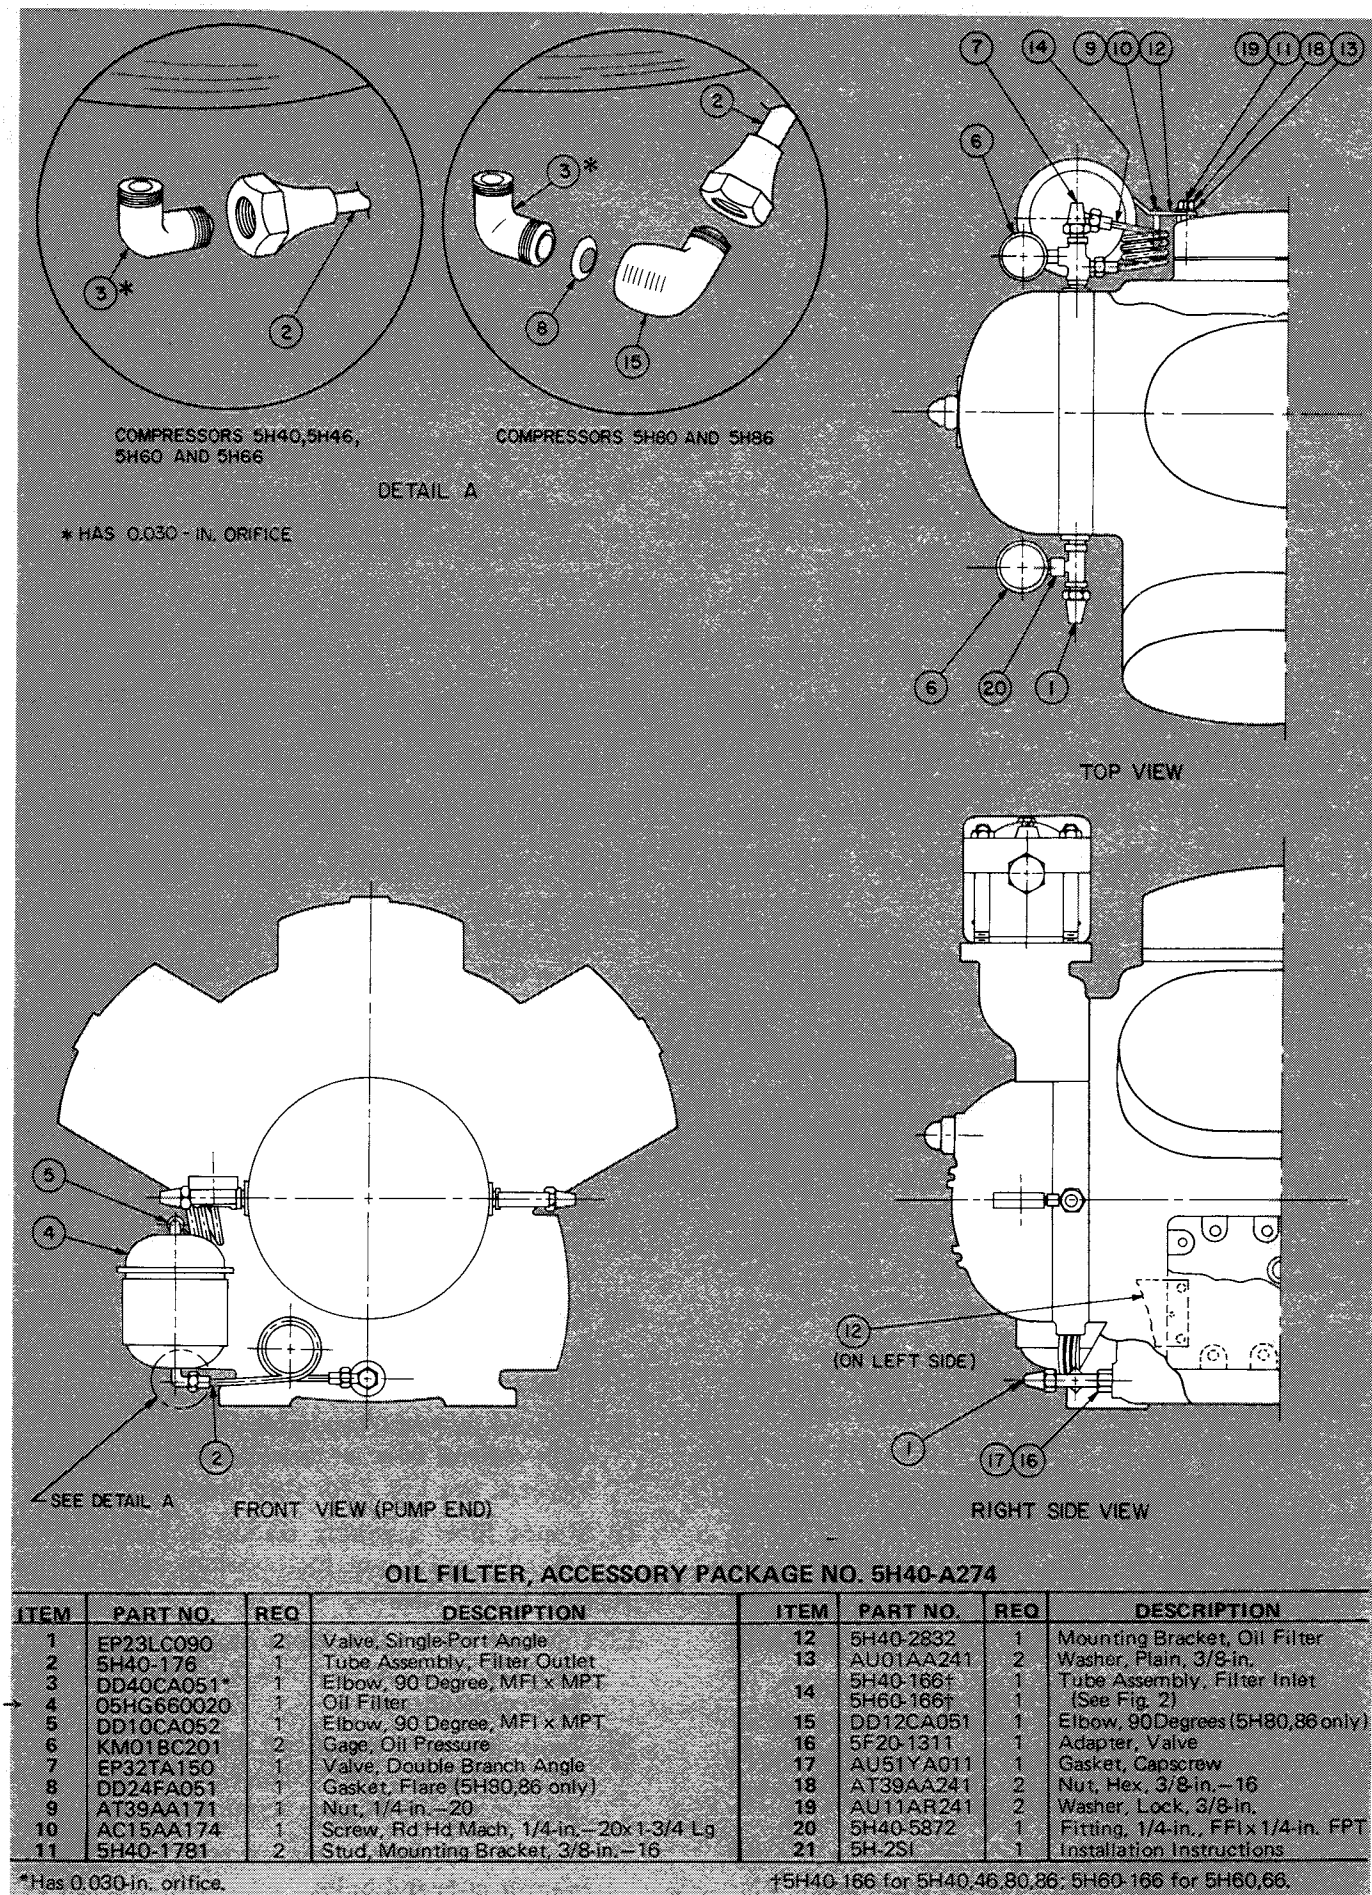

Fig. 1 – Installation Details, Oil Filter Accessory
**Review Parts List** shown in Fig. 1. Check that package is complete. Report shipping damage to transportation agency. Report missing parts to Carrier.
2. Install a single-port angle valve (Item 1) into adapter. Tighten valve so that valve and adapter assembly are tight and valve side port points to the left when facing pump end. See Fig. 1, front view. Also see Fig. 2.
**NOTE:** These openings are at the 9 o'clock and 3 o'clock positions on the pump end bearing head and must not be confused with any other pump end plugs nearby. See Fig. 1, front view.
4. Install double-branch angle valve (Item 7) in left side opening in pump end bearing head so that gage connection (1/4-in. FPT) is horizontal, away from compressor. See Fig. 1, top view. Also see Fig. 2.
7. Install oil pressure gages on valves so that gages face up as shown in Fig. 1. If gage port on right valve is up, face gage away from compressor.
Note that 2 elbows and a flare gasket are used on outlet for filter assembly used on 5H80 and 86 compressors. See Detail in Fig. 1.